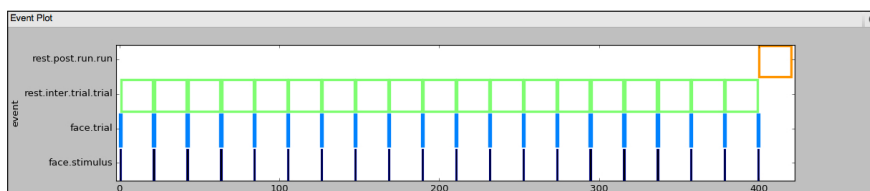

Figure 22: Initial slow event related event plot
Once all events are defined and configured your event plot should look like Figure 22. Each run (we have only prescribed one, for now) will consist of smaller events called trials. Within each trial there will always be two smaller events: a stimulus and an associated ITI. The stimulus event will be the presentation of the stimulus (e.g. a face) and the ITI event is an accompanying period of rest that allows the hemodynamic response to return to baseline. Of note in Figure 22 is the solid event denoted **face.stimulus**. These are the events that will serve as the basis for the estimation of the hemodynamic response. The green box denotes the ITI, whereas the blue box denotes the face trial. This block box is colored as an empty box, however, the event is so short that the box does not look empty.
2. Set the duration of the **ITI** back to 20 seconds. Now lets add our control condition from the previous unit: scrambled. Return to the **Design** tab and enter another **type** of trial called scrambled into the Event Definition table (**Figure 6**, ①). How did the event plot at the bottom of the **Design** tab change from Figure 22 ?